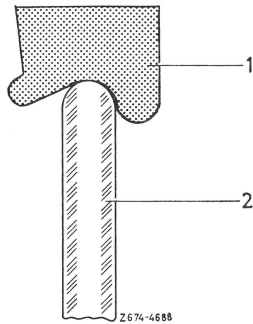

Fig. 9
**Note:** When preload is correctly adjusted, the front upper edge of opened window will just touch rubber seal when door engages in first stage of door lock. With the door completely closed, pane (2) should now rest in its complete length against inner lip of front rubber seal (1) (Fig. 9).